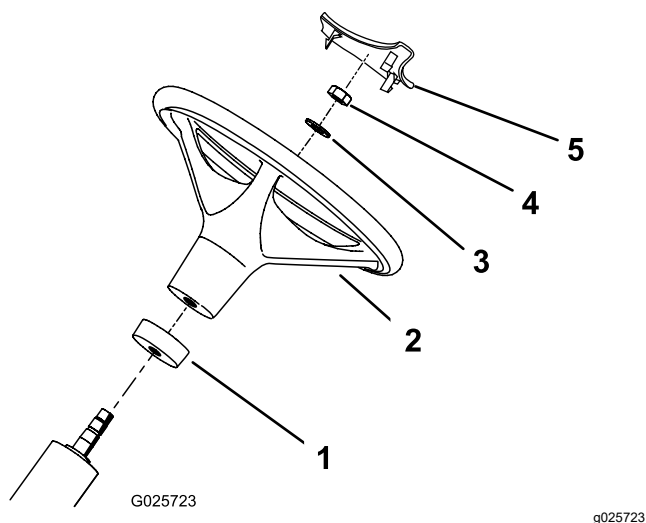

Figure 3
2. Slide the foam collar, small end first, onto the steering shaft (Figure 3).
3. Slide the steering wheel onto the steering shaft (Figure 3).
4. Secure the steering wheel to the steering shaft with a washer and a locknut (Figure 3).
6. Press the steering-wheel cover into position on the steering wheel (Figure 3).